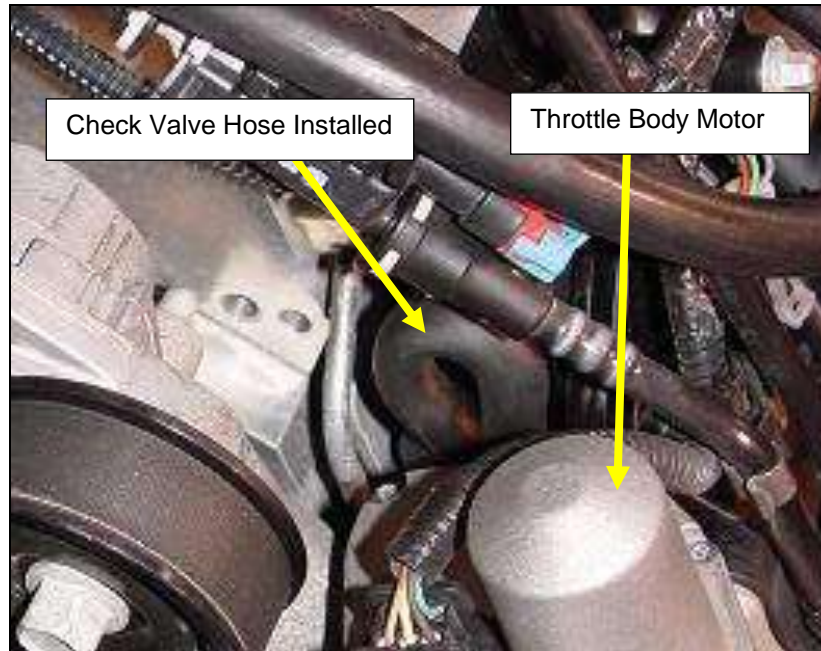

Figure 13
2. Install the STS molded check valve hose into place (**Figures 13 & 14**).